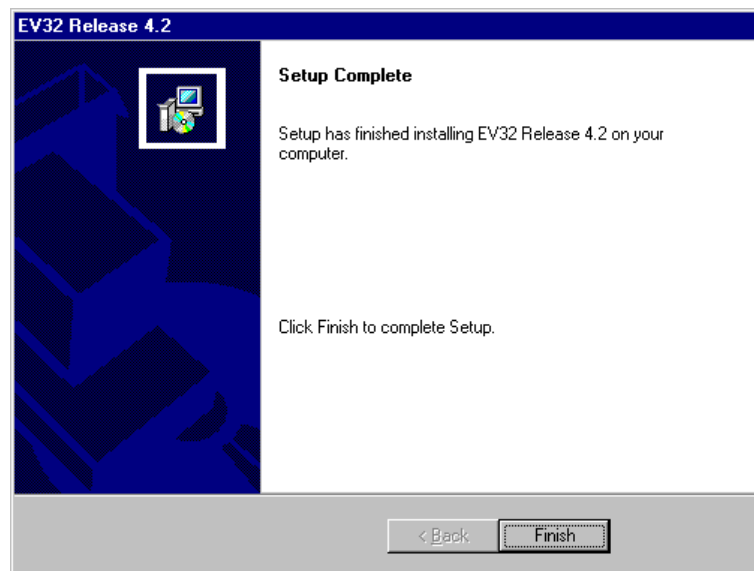

Figure 2-7. EddyVISION32 v4.x Installation Complete Message Window
9. Finally, the message box shown in Figure 2-7 appears indicating that the CoreStar EddyVISION32 software has been successfully installed. Click the **Finish** button to exit the installation program. You'll notice that a shortcut folder now appears on the Desktop entitled *EddyVISION32 Rel 4.x*. Double-clicking this folder reveals four (4) program shortcut icons. The installation program installs the complete CoreStar EddyVISION32 suite of eddy current related software products; however, only the programs you have enable keys for will run. If desired, you may want to place copies of desired shortcuts directly on the Desktop. With the *EddyVISION32 Rel 4.x* folder open, **right-click & drag** desired shortcuts to the Desktop and release the right button, then select **Copy Here** on the popup menu.